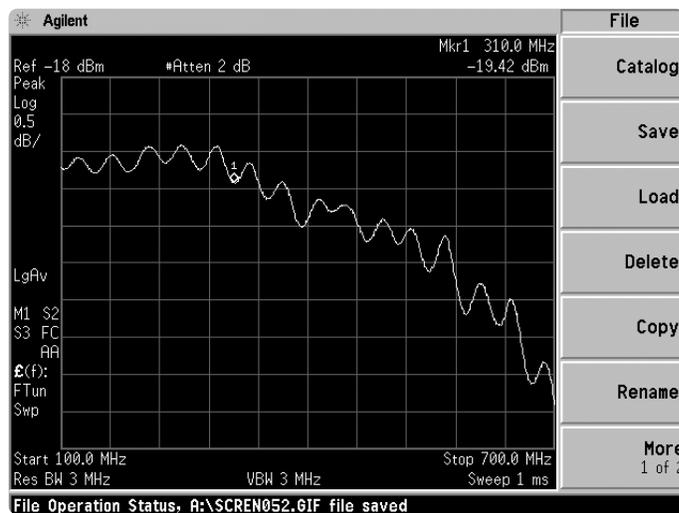

Figure 4. Output-power measurement of a mixer using the configuration illustrated in Figure 1.
- The simplest way is to use the max hold feature, available on most spectrum analyzers, by increasing the dwell time of the input source to be greater than one spectrum analyzer sweep. Figure 4 shows the results of an absolute power measurement using the Agilent PSA Series spectrum analyzer. For this measurement, 50 milliseconds per point dwell time was used requiring approximately 23 seconds for one complete sweep.